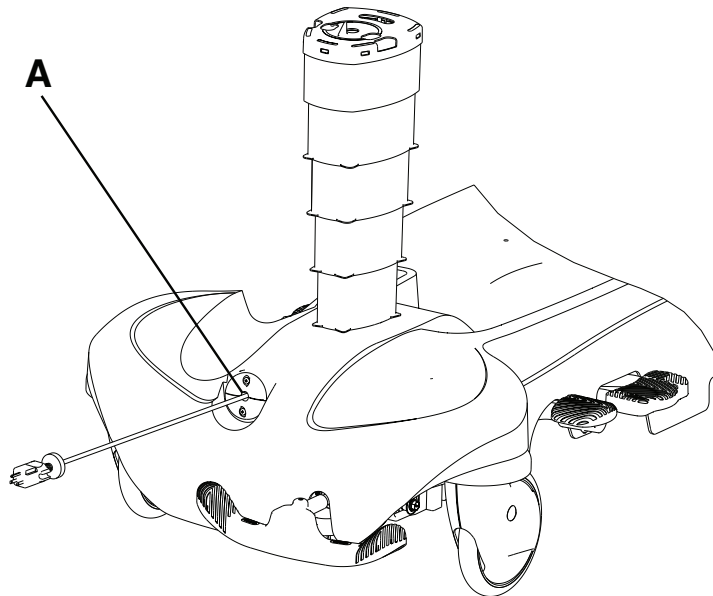

Figure 18 – Retractable cord reel
To extend the power cord, pull the power cord out from the retractable cord reel (A) to the desired length (Figure 18).